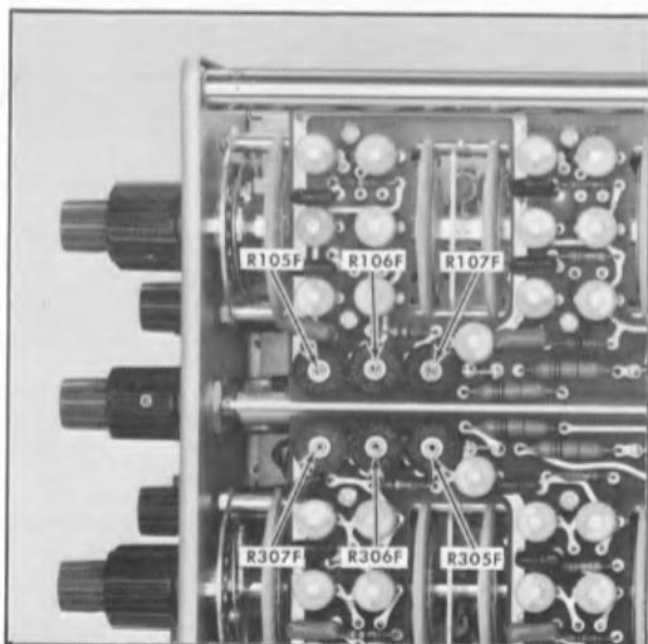

Fig. 6-9. Location of Attenuator Differential Balance adjustments for channels 1 and 2.
- e. ADJUST—See table 6-2 and Fig 6-9 for appropriate component number and location to be adjusted for minimum display amplitude.
f. ADJUST—See Table 6-2 and Fig. 6-9 for appropriate component number and location to be adjusted for minimum display amplitude.